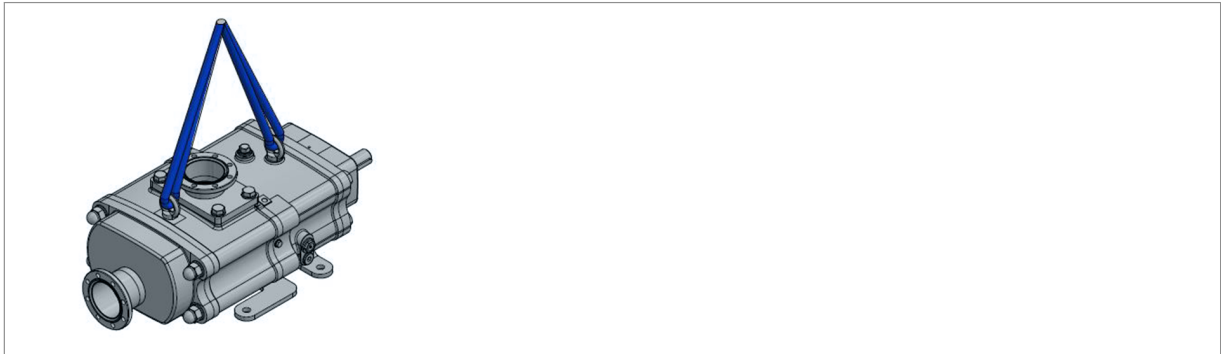

Fig. 7: Lifting the pump with lifting lugs
2. ➔ Fasten cables, straps or multi-point hangers in accordance with Fig. 7.